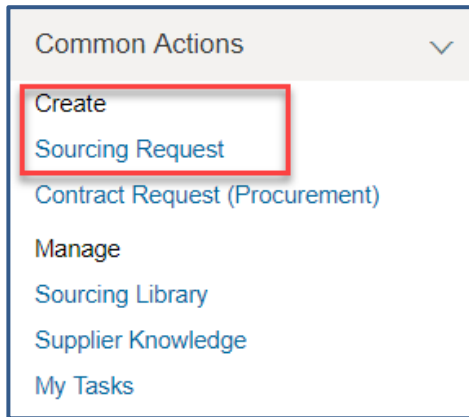

Figure 1
- At the top left under **Common Actions**, select **Create** > **Sourcing Request** (Figure 1).